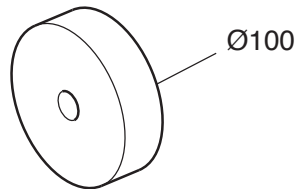

Fig. 2
- 2 Fig. 2 shows a small wheel. The wheel could be made from wood, metal or plastic.